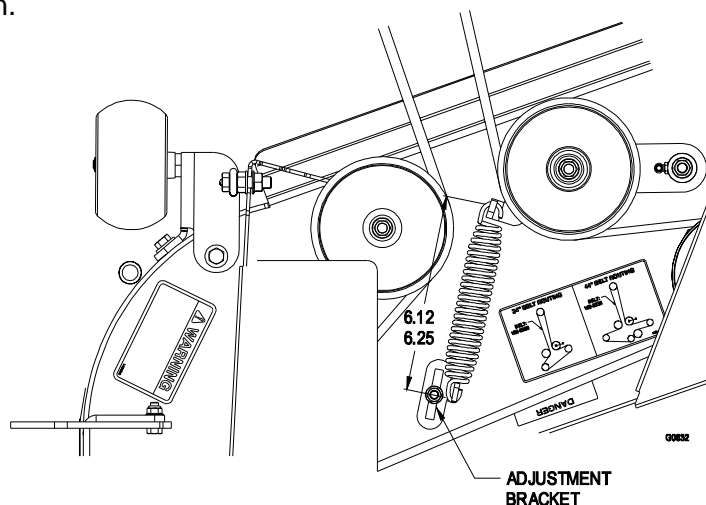

FIGURE 15
- b) The spring extension should measure 6.12-6.25" (15.5-15.9 cm) in length as shown in Figure 15. Loosen the bolt and slide the bracket to adjust the length and retighten the hardware. If the specified length cannot be achieved by adjusting the bracket, replace the belt. This should be checked in the 3" position.